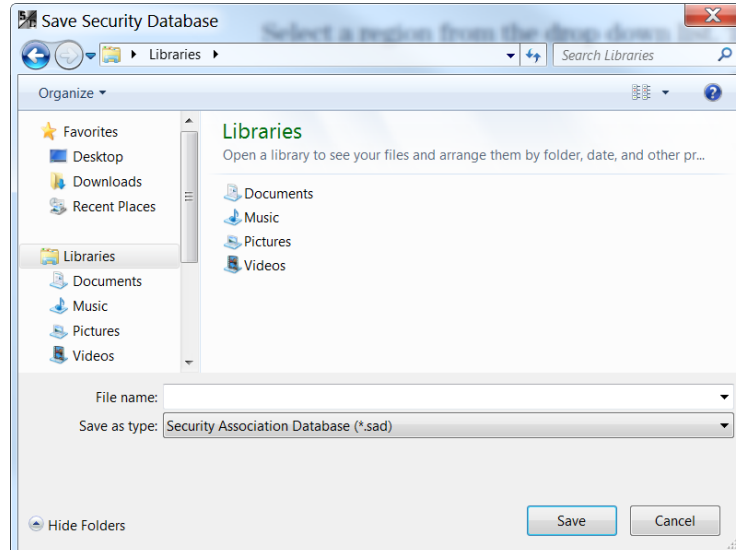
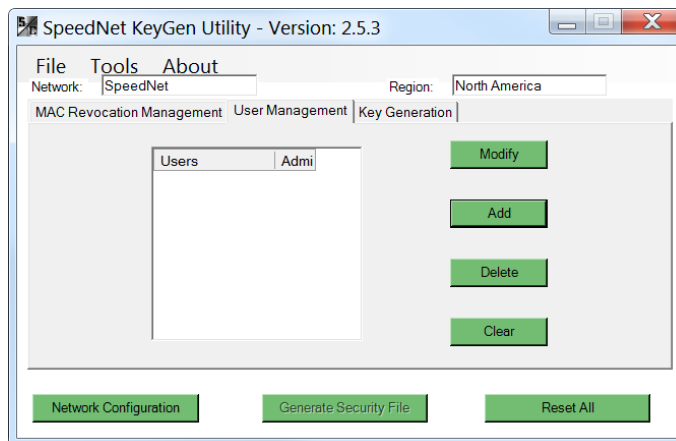

Figure 5. Security Association Database save dialog.
Figure 6. KeyGen User Management window.
STEP 7. Save the Security Association Database file as a .sad file. See Figure 5. The User Management window will open. See Figure 6.